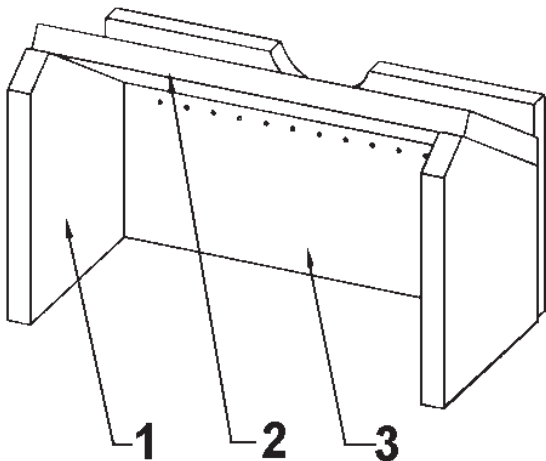

Fig 6
4. Follow the reverse sequence for assembly. See Fig 6.